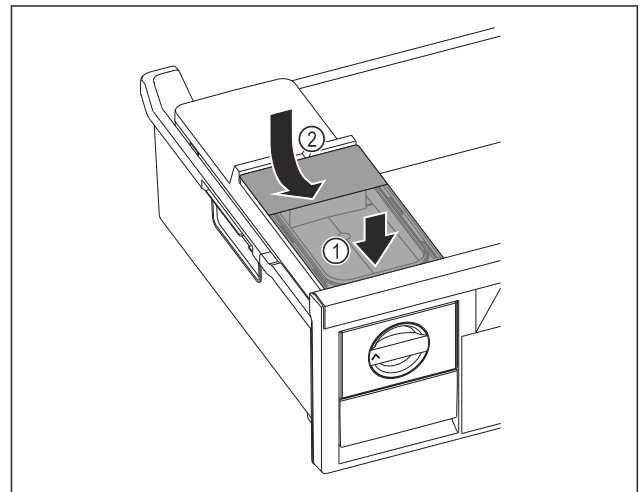

Fig. 121
- ▶ Position the water tank at the front. Fig. 121 (1)
- ▶ Lower the water tank at the rear. Fig. 121 (2)